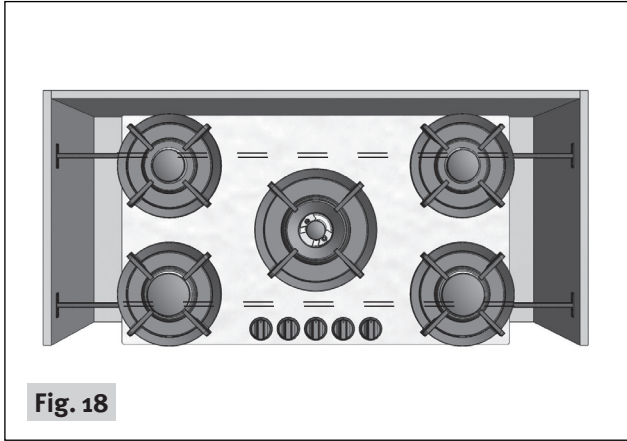

Fig. 18
- 5a. The PITT® cooking module should always be fully supported with the PITT® cooking support set to prevent bending of the kitchen worktop (**fig. 18 and 19**).